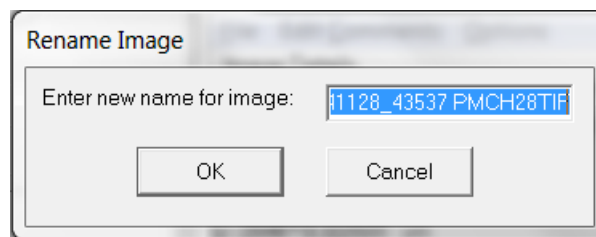

Figure 77. The Rename Image Dialogue
- Rename Image** You can rename the highlighted image (Figure 77).